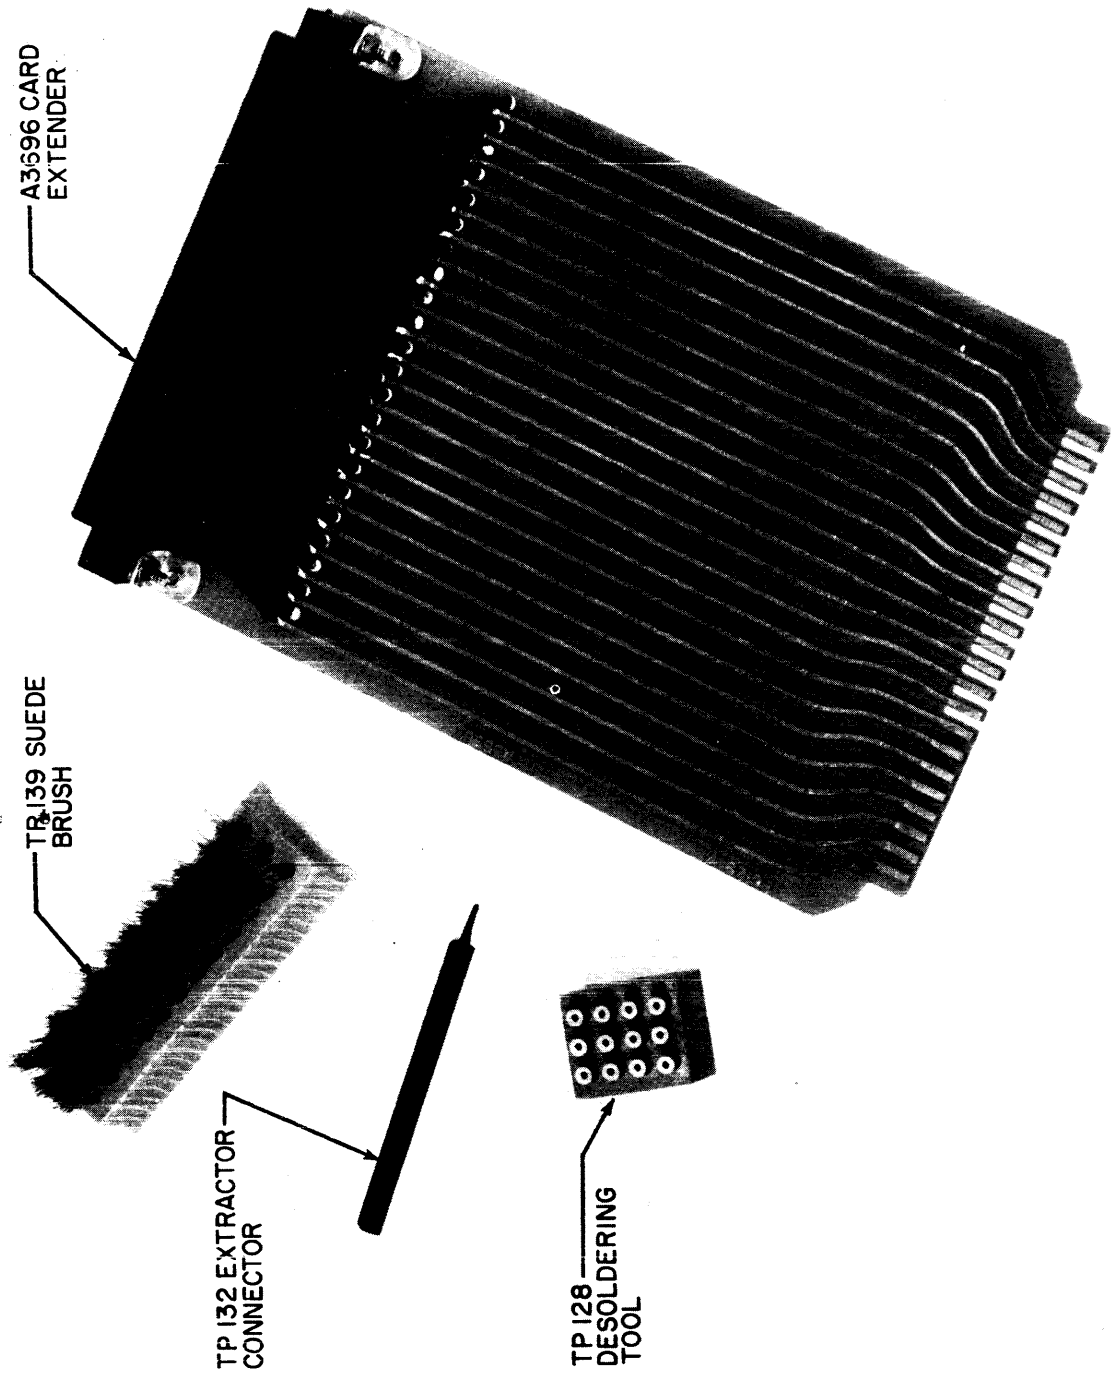

Figure 5-3. Maintenance Tools, Logic Circuit
Special tools included in the shipment\* and required for RTPA testing and repair are shown in figure 5-3. Table 5-1 lists standard laboratory equipment required but not supplied. Also, of particular value in speedy troubleshooting is a set of spare logic cards for card-substitution procedures.
b. Replacement of Logic Modules. - When replacing a logic circuit module on a card, it is necessary to remove the old module from the card by a simultaneous melting of the solder on all the logic pins. TP128 Desoldering Tool (see figure 5-3) is included in the RTPA shipment\* for this purpose. Soldering the new module to the card is done pin-by-pin with conventional methods.
Refer to figure 5-6. Clean old solder out of TP128 cups with TP139 suede brush included in shipment\* (figure 5-3). Plug iron extension cord into power outlet and allow to heat for 15 minutes. Lower card onto TP128 with pins of module to be removed nesting into TP128 solder cups. Press firmly on module to insert pins into cups while solder melts. When solder has melted sufficiently, it will be
d. Replacement of Wire in Card Receptacles. - TP132 Connector Extractor is included in the shipment\* (see figure 5-3) for removing and installing wire in J1000 through J1006 card receptacles. These receptacles take an insertion type of wire connection, rather than solder type. Figure 5-7 shows methods of wire removal and insertion using TP132. It will be noticed that TP132 serves to (a) give added rigidity to the wire as it is inserted or removed and (b) spring back the retention finger on the wire contact.